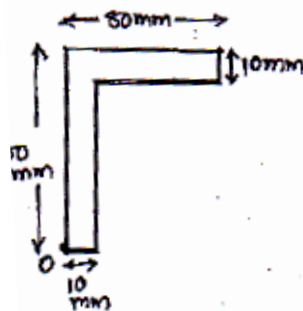

Figure 2
- Q3) a) Find centroidal co-ordinates of laming given in figures2, with respect to point O. [10]